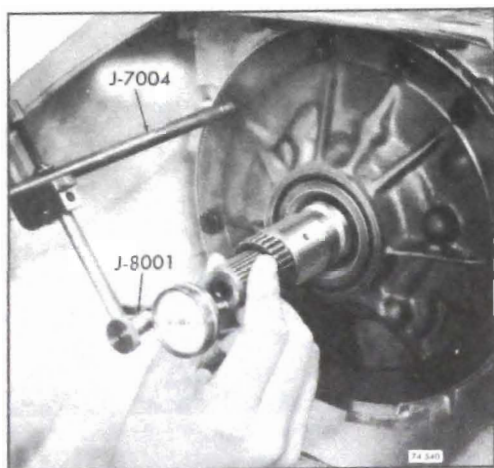

Figure 76-540
hole in pump. See Figure 76-540.
c. Mount dial indicator on the rod and index indicator to register with end of turbine shaft. See Figure 76-540.